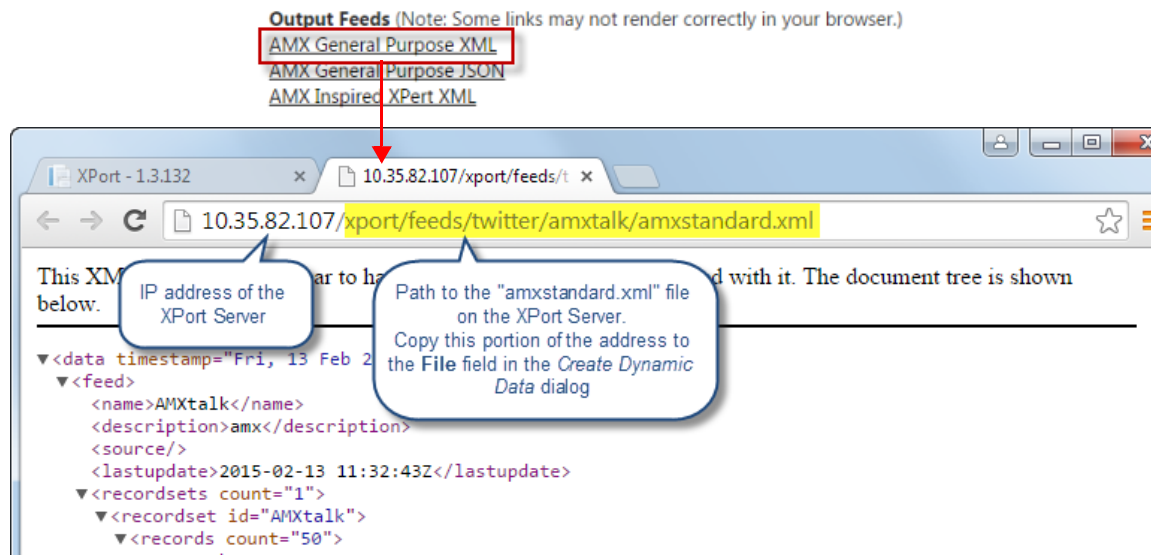

FIG. 188 Path to the "amxstandard.xml" file on the XPort Server
3. In the *File* field, enter a file name that indicates the full path to the location of the source file on the XPort Server. This information can be retrieved from the browser window, when the *amxstandard.xml* file is opened via the *AMX General Purpose XML* link on the Twitter configuration page on the XPort server (FIG. 188):